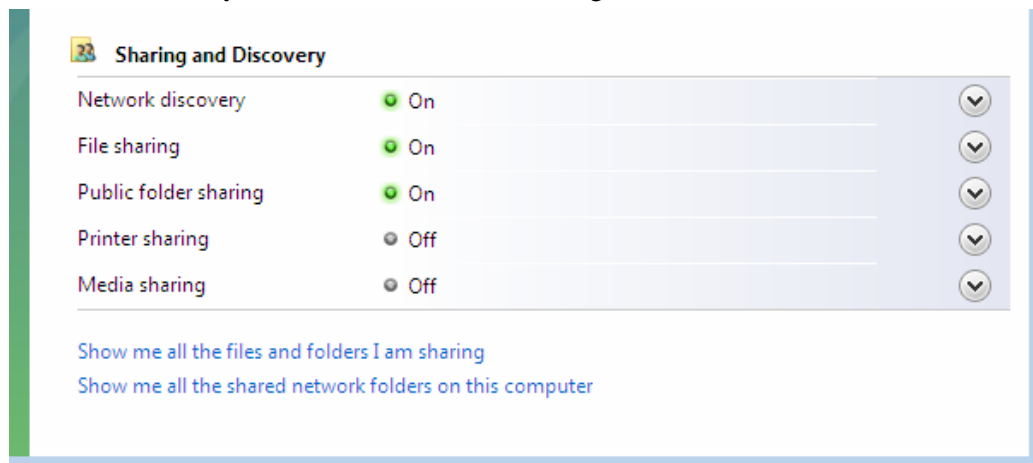

Figure 4-29: Sharing and Discovery Window
In Windows Vista/7, before you begin you must verify that the settings displayed in Figure 4-29 are on, to enable you to set the folders for sharing.
2. In the Sharing and Discovery area, ensure that the first three items are on, as illustrated in Figure 4-29.